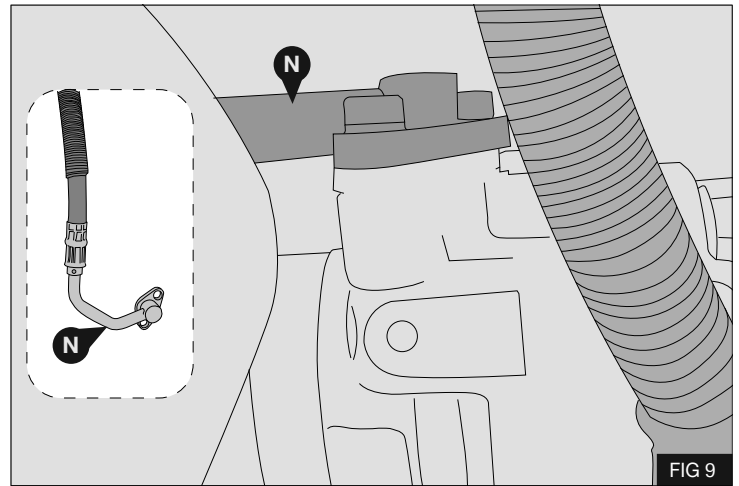

FIG 9
12. Disconnect the PAS high pressure hose (N) from the pump, discard the fasteners and position the hose to one side.
- Fig 9